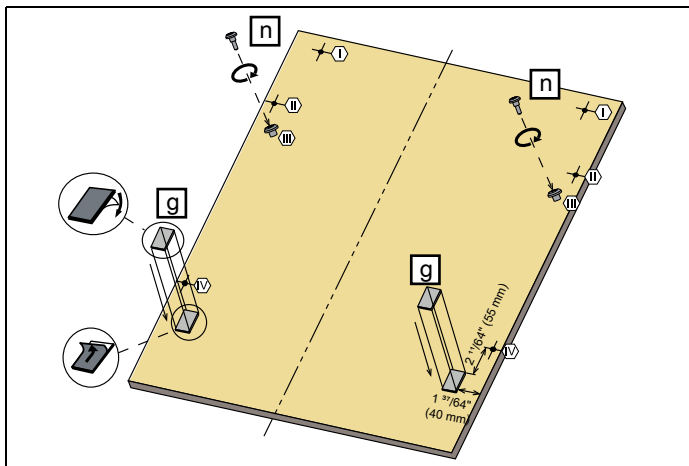

Fig. 25
3) As shown in Fig. 25 , Screws  $\text{Ø}5/32'' \times 27/32''$  (4mm x 21.5mm) are installed in positions III.
4) As shown in Fig. 25 , Wooden Door Fixing Strips are installed in the positions shown in the figure.